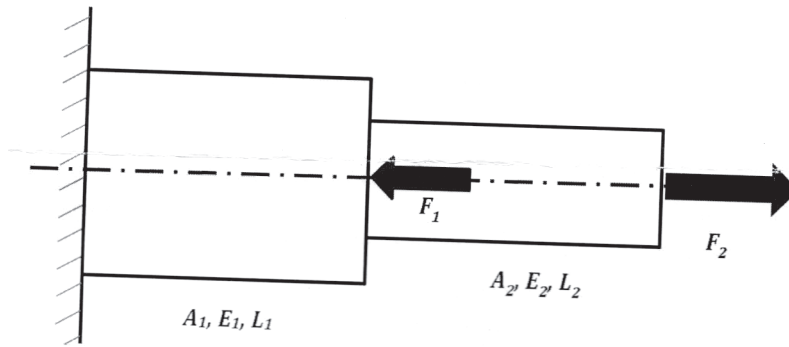

Figure 1: Qu 4
- Q4)** An axial stepped bar as shown in Figure 1, is axially loaded by force  $F_1 = 20\text{kN}$  and  $F_2 = 15\text{kN}$ . Assuming  $E_1 = E_2 = 210\text{N/mm}^2$ ,  $A_1 = 150\text{mm}^2$ ,  $A_2 = 100\text{mm}^2$  and  $L_1 = L_2 = 300\text{mm}$ , determine deflection, stresses in elements and reactions at nodes. [10]